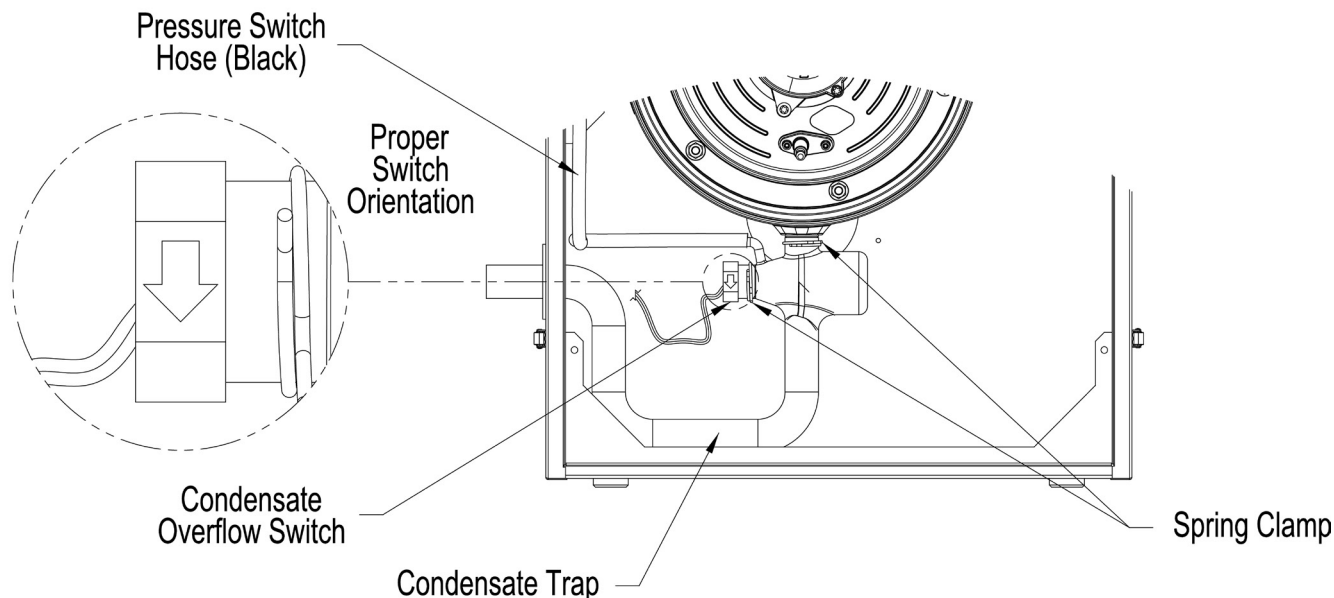

Figure 11-2: Condensate Overflow Switch Orientation
- e. Apply silicon sealant to the replacement switch threads and install the switch into the trap body making sure it is properly oriented - the arrow molded into the switch hex end side must face down for proper switch operation. See Figure 11-2 "Condensate Overflow Switch Orientation" for details.
- j. Ensure that fresh silicon sealant is applied to the overflow switch threads and the switch is properly oriented relative to the trap body - the arrow molded into the switch hex side end must face down for proper switch operation. See Figure 11-2 "Condensate Overflow Switch Orientation" for details.